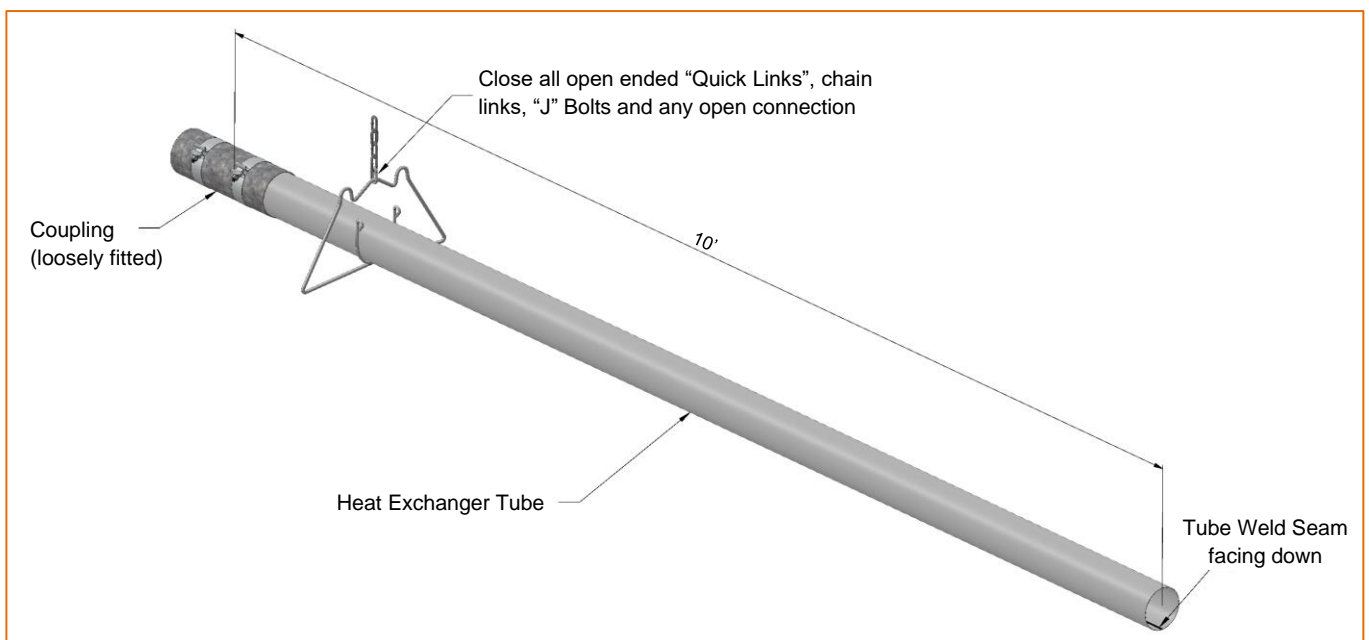

Figure 8: Installation of Heat Exchanger Tube and Coupling
- For all remaining tubes, fit the end of the tube with a coupling; refer to Figure 8 (the coupling should be loose).